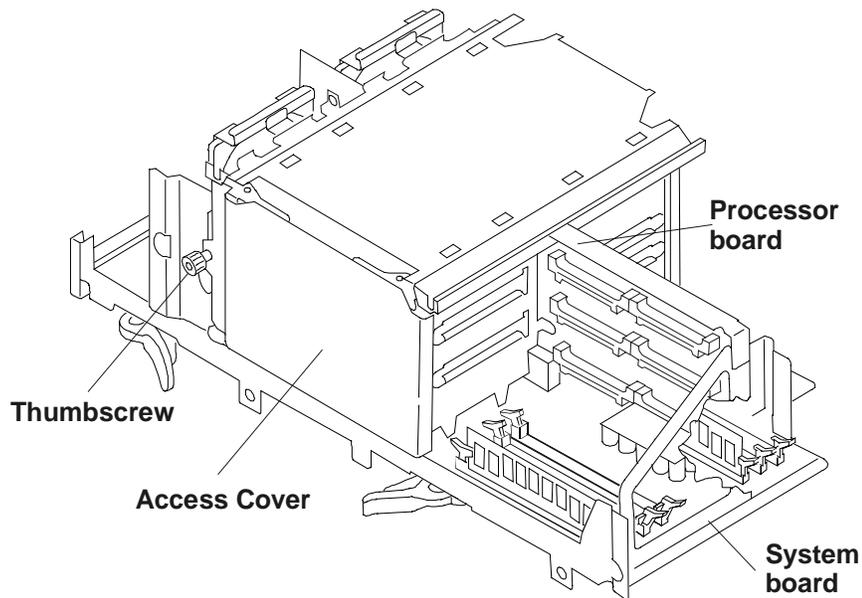

Figure 7-2. Access to the Processors
8. Loosen the thumbscrew and open the access cover to the processor slots (see Figure 7-2).
15. Close the access covers to the processor slots and tighten the thumbscrew (see Figure 7-2).